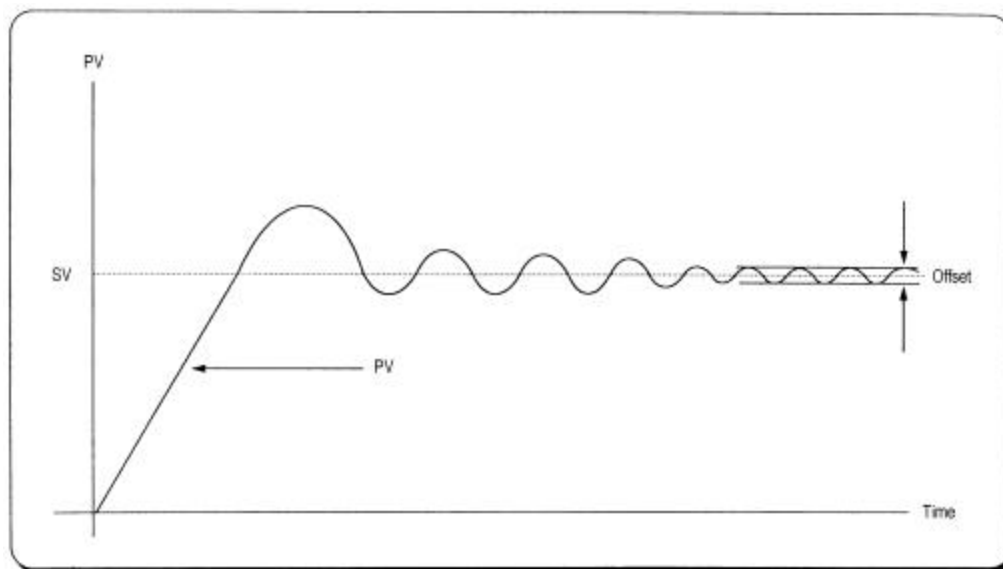

Fig. 2.2 When the proportional constant (K_p) is large
- (d) If the Kp is too large, the PV reaches to the SV swiftly, but it may causes a bad effect like oscillations shown in the Fig. 2.2.